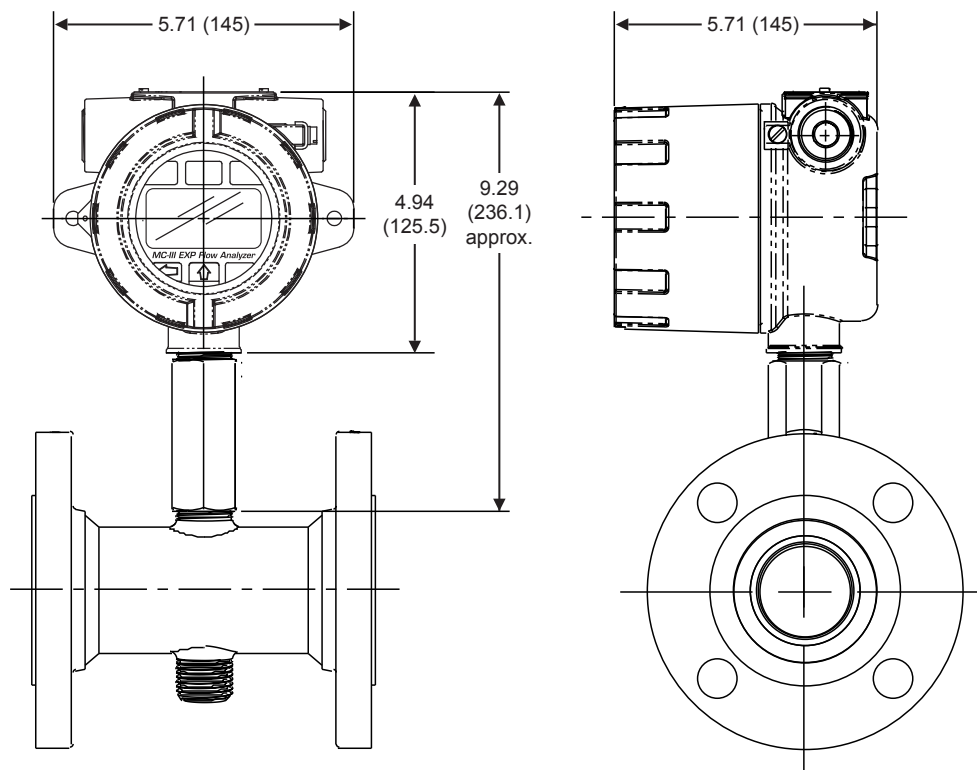

Figure 2.3—Direct mount to a Barton 7000 series flowmeter with 3/4-in. to 3/4-in. standoff tube (ATEX)
- Mount the device to a Barton 7000 Series turbine meter. A 3/4-in. to 3/4-in. stainless steel standoff tube is required (Figure 2.3, page 21). (The 3/4-in. to 1-in. reducer supplied with the Barton 7000 Series meter is not required when the standoff tube is used.)